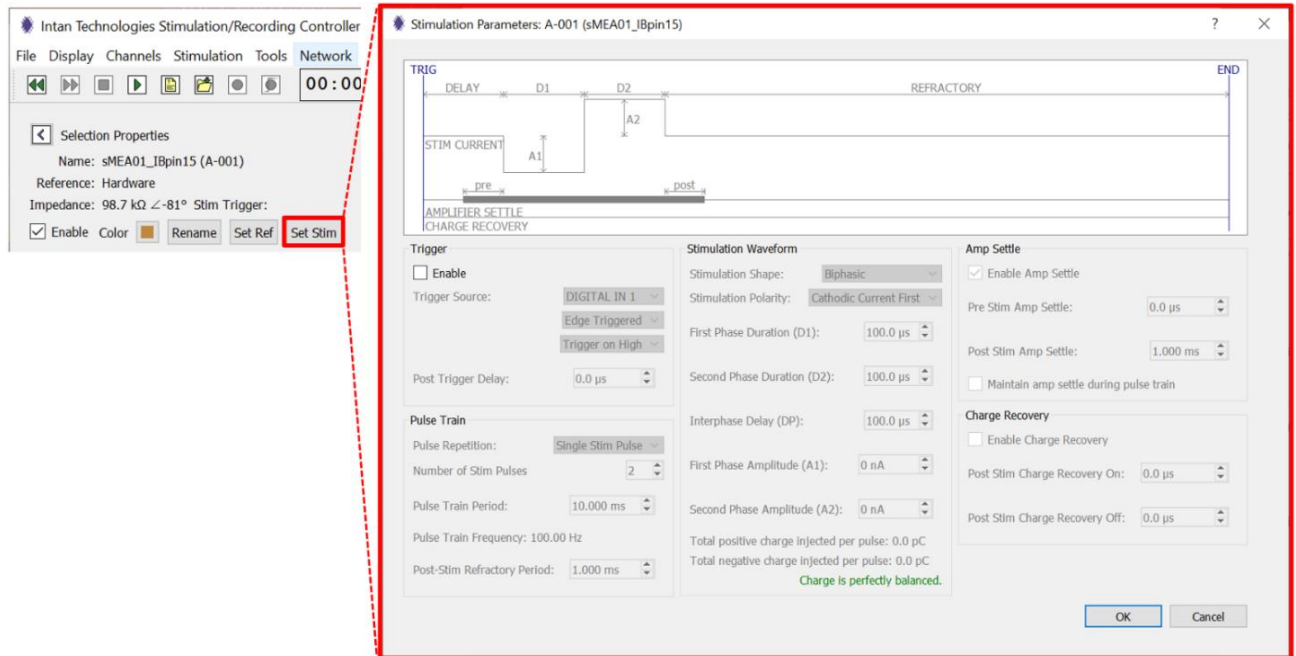

Fig. 69: "Stimulation Parameters" window.
- 2) Click "Set Stim" under Selection Properties and the "Stimulation Parameters" window will pop up (red box in **Fig. 69**).
The channel name is shown in the window title bar on the top ("A-001 (sMEA01_IBpin15)" in the **Fig. 69** above). A schematic illustration of the stimulation sequence (not to scale) is shown in the upper part of the "Stimulation Parameter" section. When the stimulation parameters are chosen in the lower section of this window, the relevant arrows and labels will be highlighted in the schematic with the white background on top.